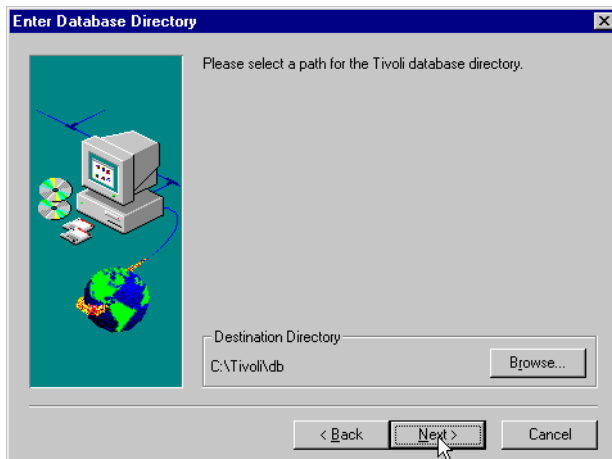

Figure 22. Enter Database Directory
12. Enter the location of the Tivoli database directory in the window shown in Figure 22.